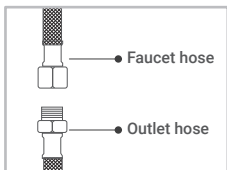

Figure 5
- If the faucet hose is 3/8", it can be directly connected to the outlet hose. (Figure 5)